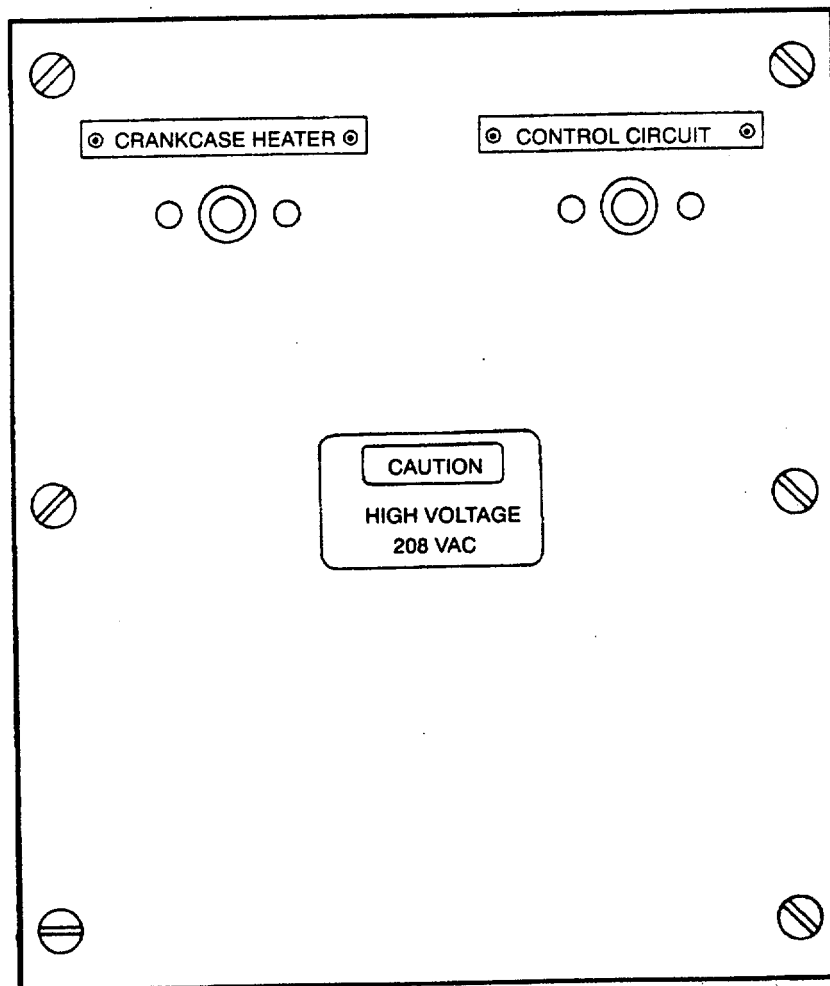

Figure 2-1. Controls and Indicators (Sheet 1 of 2)
**2-2. OPERATOR'S CONTROLS AND INDICATORS.** See Figure 2-1 for a general description of the controls and indicators with which an operator will normally be concerned. For specific operating instructions, see Section III and Section IV of this chapter.